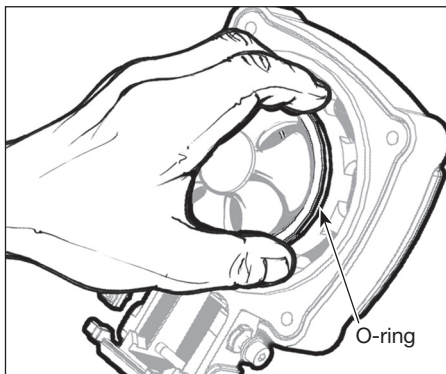

Figure 5
1. Without putting any pressure on the fan blade, hold the cylinder head o-ring with your thumb and index finger of one hand, and pull the o-ring out of the groove by applying light pressure while pulling (see Figure 5).